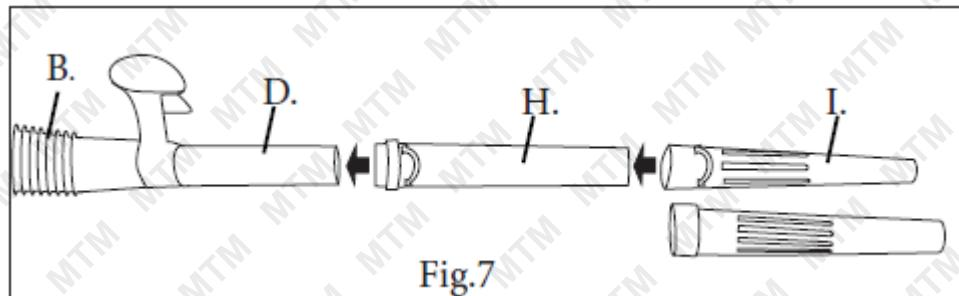

Fig.7
1. Connect the intermediate tube (H) and air nozzle (I).
2. Push the tubes together and turn them clockwise so that they lock together (Fig. 7).